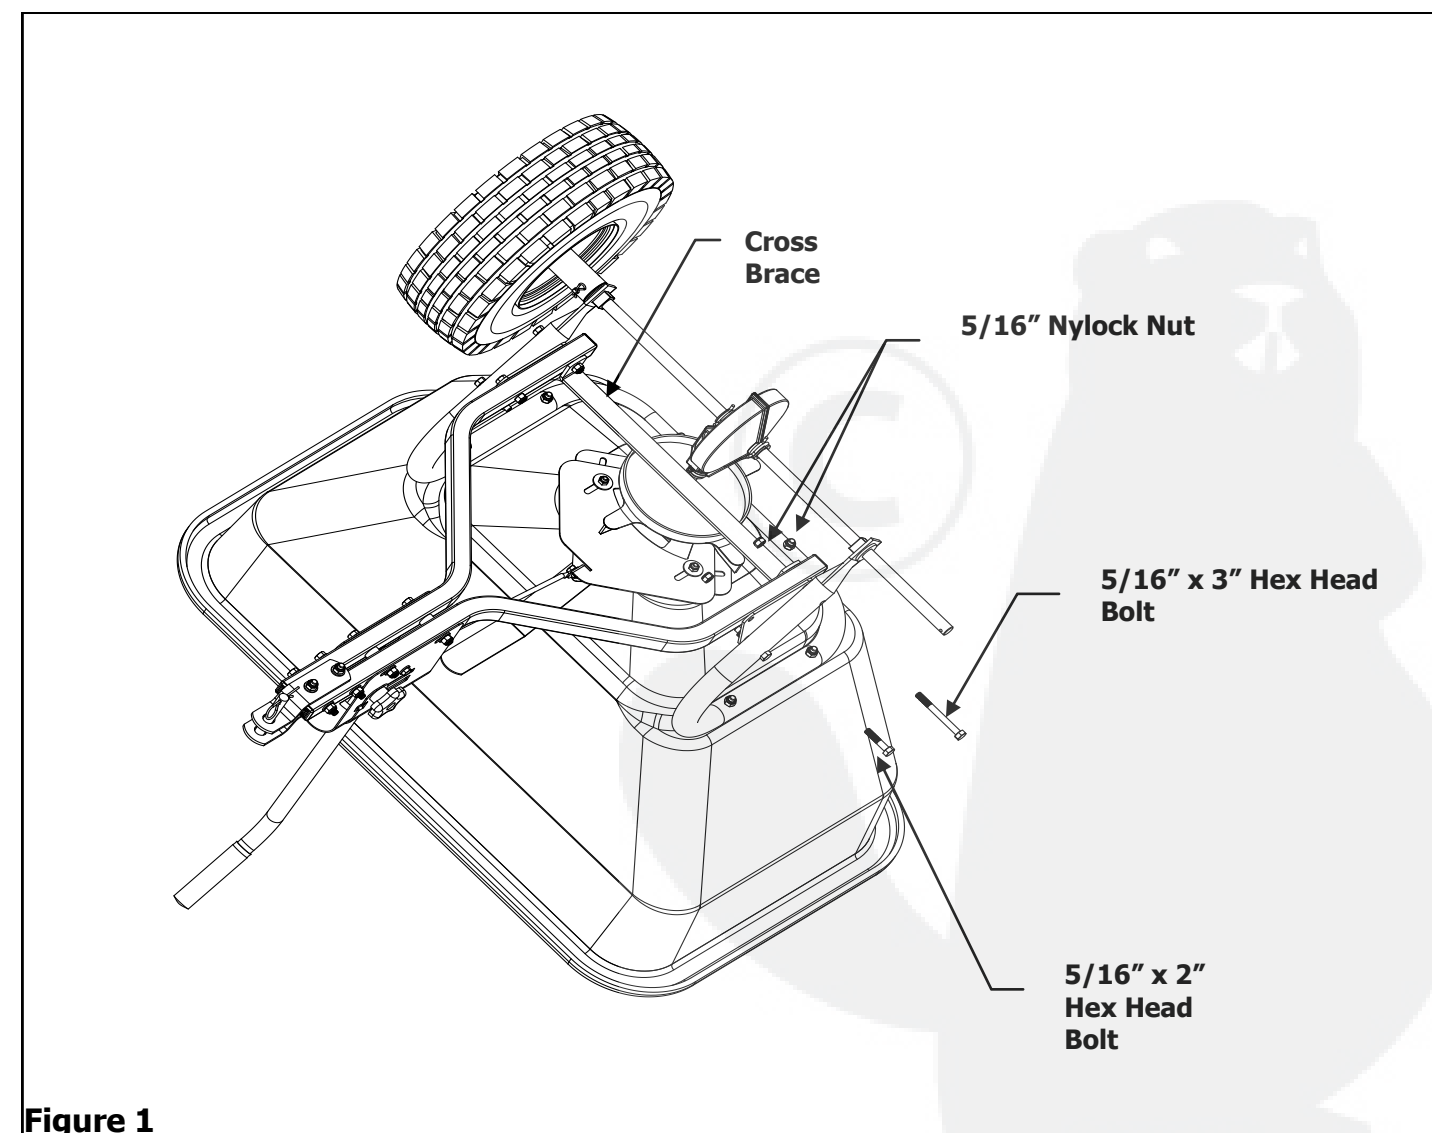

Figure 1
1. Remove two pre-attached 5/16" x 2" Hex Head Bolts in front holes and the two 5/16" x 3" Hex Head Bolts in rear holes. Remove the 5/16" Nylock Nuts (both sides) and Cross Brace. It is not necessary to remove the tire for this step, this is shown only for clarity. See Figure 1.